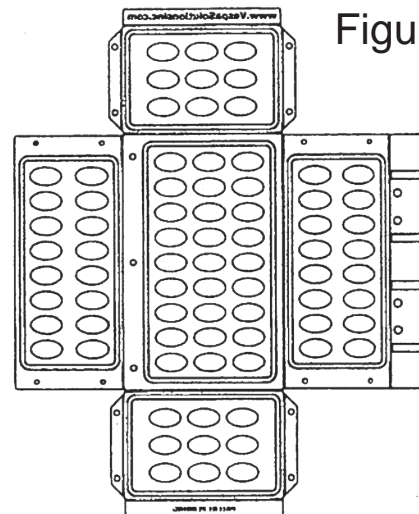

Figure 1
1. Lay Hornet Shield flat on table to start. (Figure 1).